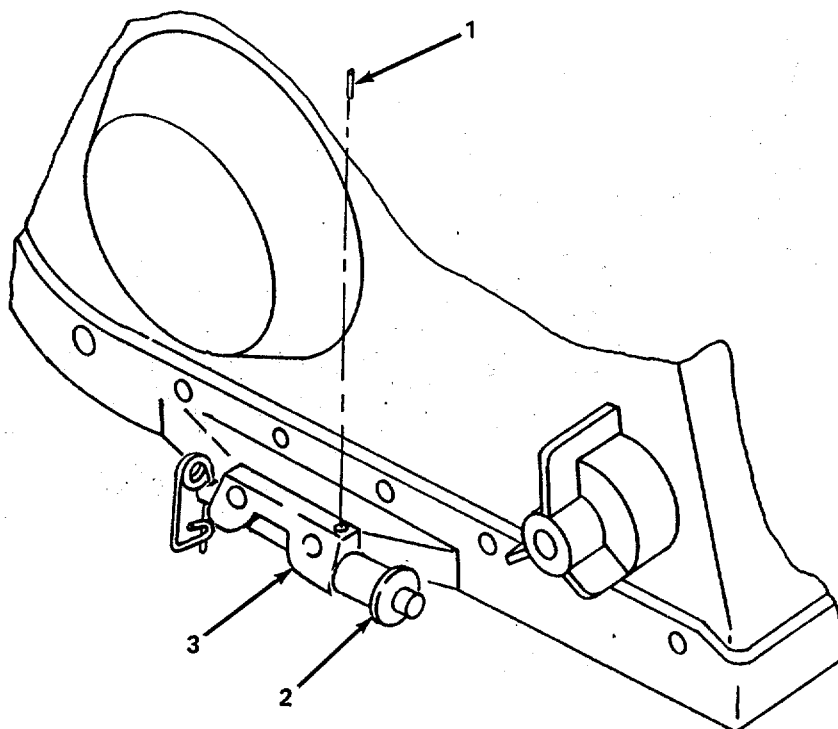

Figure 4-22. Roll Pin, Replace.
(2) *Replace rollpin.* (figure 4-22)